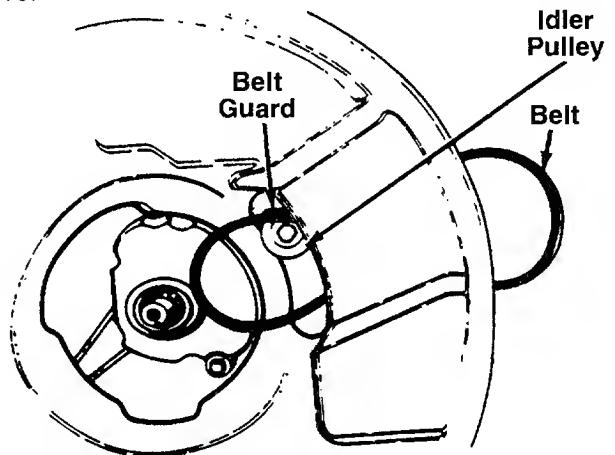

FIGURE 16.
- Remove the belt from between the idler pulley and the belt guard on the idler pulley bracket. See figure 16.
- Push the idler pulley up out of the way as shown in figure 16.